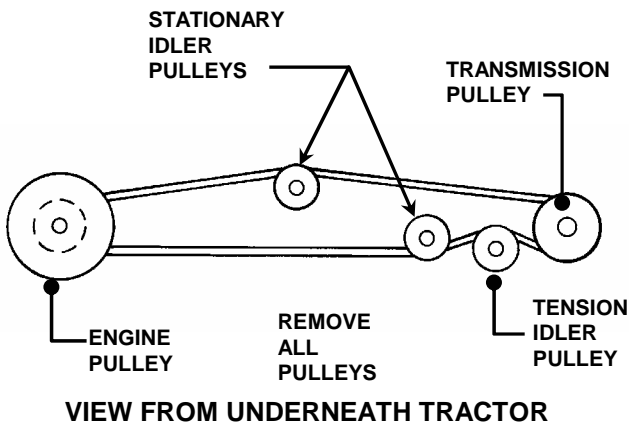

FIGURE 4.27
- Remove mounting nuts that secure the traction drive belt idler tension pulley and stationary idler pulleys. See Figure 4.27.